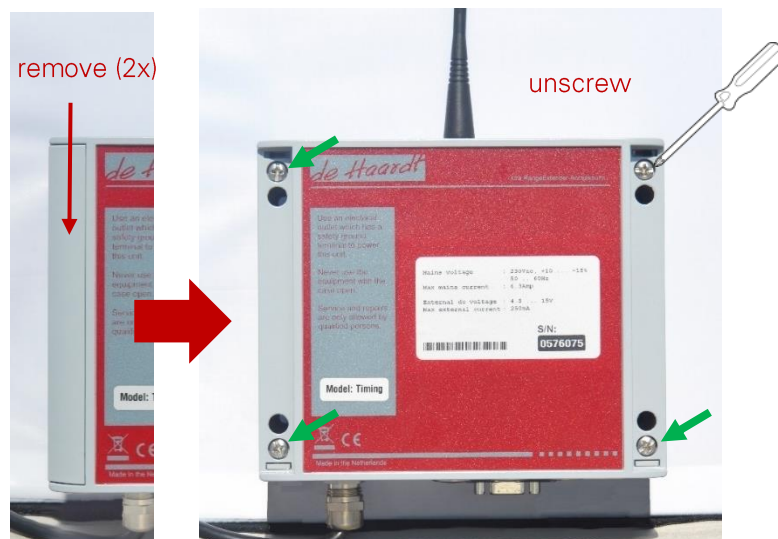

Figure 3: front view, remove the screw covers and the screws
3. Remove the screw covers (2x) and the screws (4x) by using the phillips-head (ph2) screwdriver (Figure 3).